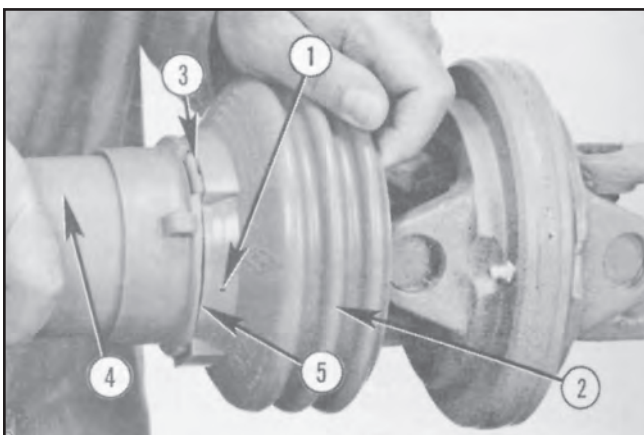

FIGURE 66
1. Refer to Figures 66 and 67, for removal of necessary PTO shields.